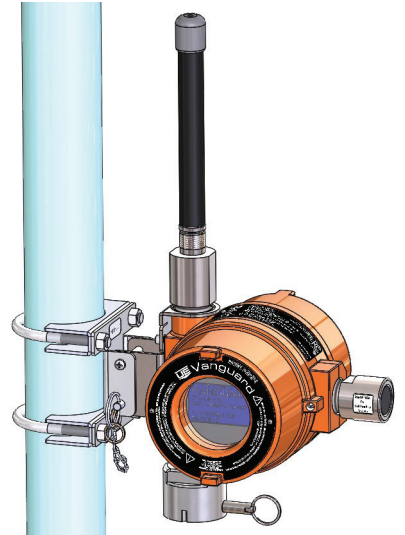

Figure 17
7. Push attached pin [5] through bottom holes to secure device to the bracket (see Figure 17).